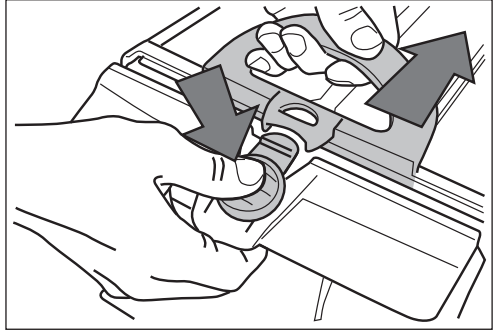

Figure 13. Open Filter Canister Assembly
5. Push the quick release button on the canister assembly and pull open. See *Figure 13*,